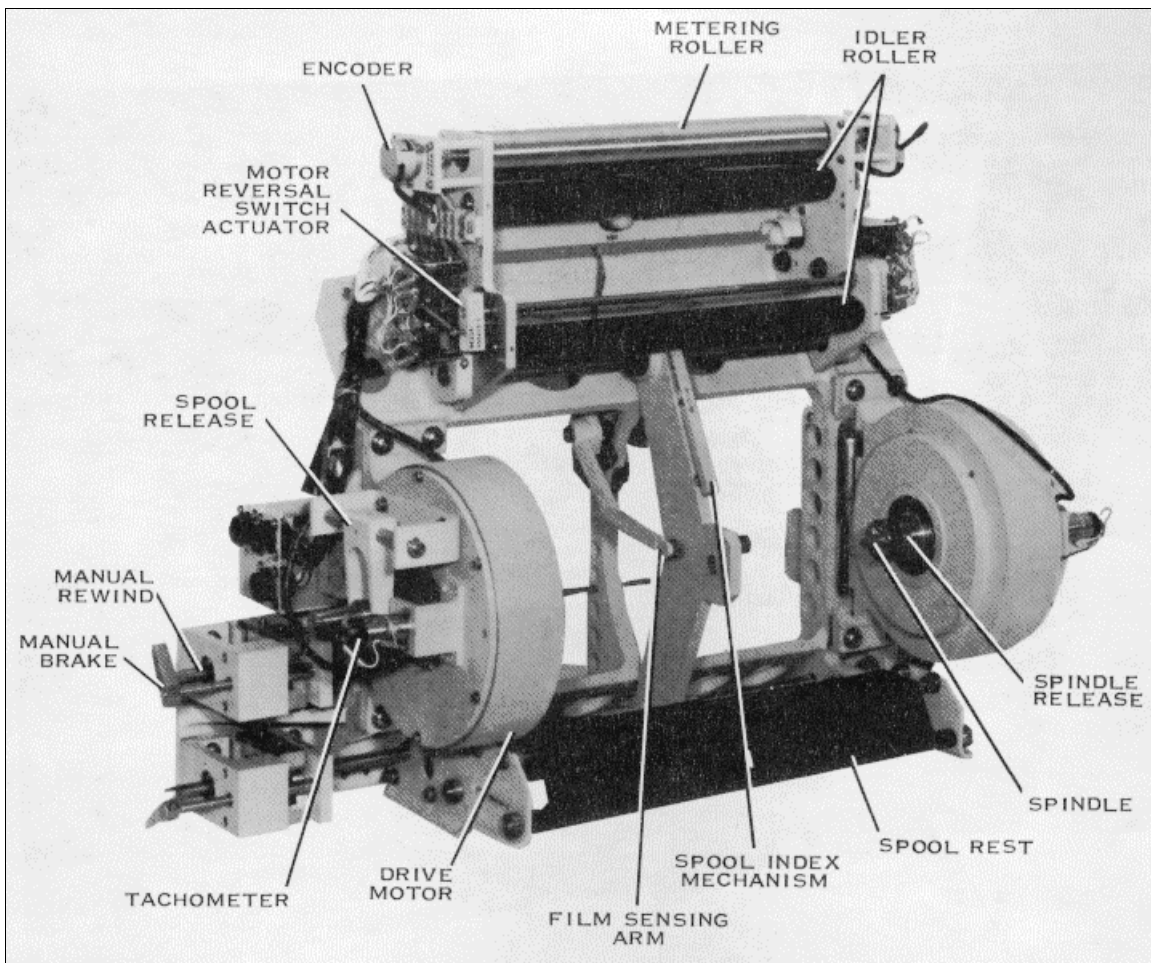

Figure 3-8. Left Film Transport Assembly A7, Parts Identification
- f. Flip spool rest (figure 3-8) up for spool flange diameter less than 10.5 inches and down for diameter of 10.5